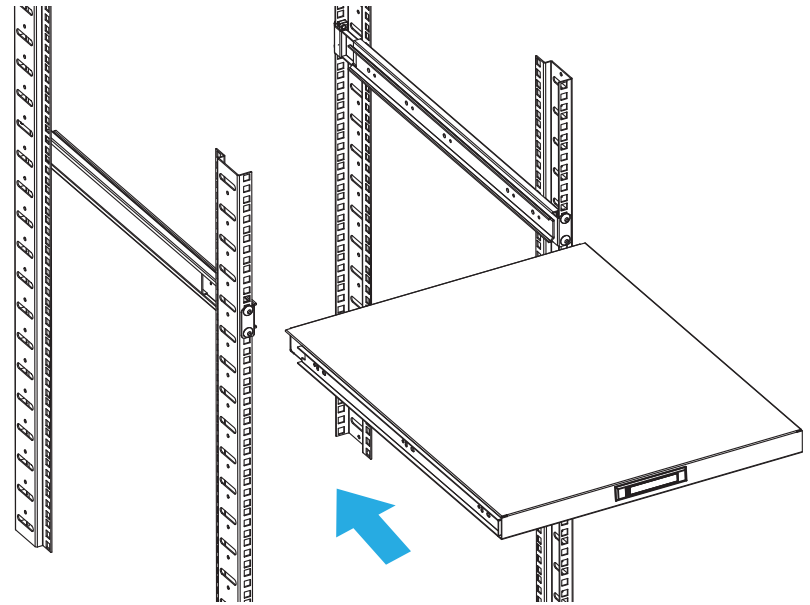

Figure 3
5. Insert the **Sliding Shelf** all the way into the **Rail Assembly** (x 2). (Figure 3)